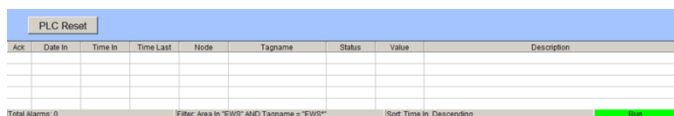

Figure 7 – PLC reset button and bottom alarm banner
**Bottom Alarm Banner:** Each overview screen also has an alarm banner area at the bottom, which displays any alarms for the site. It has a filter applied so alarms from other sites are not shown. The banner features columns for the date/time of the alarm, the alarm tag, its current status, and the alarm tag's description. This can be seen in Figure 7.